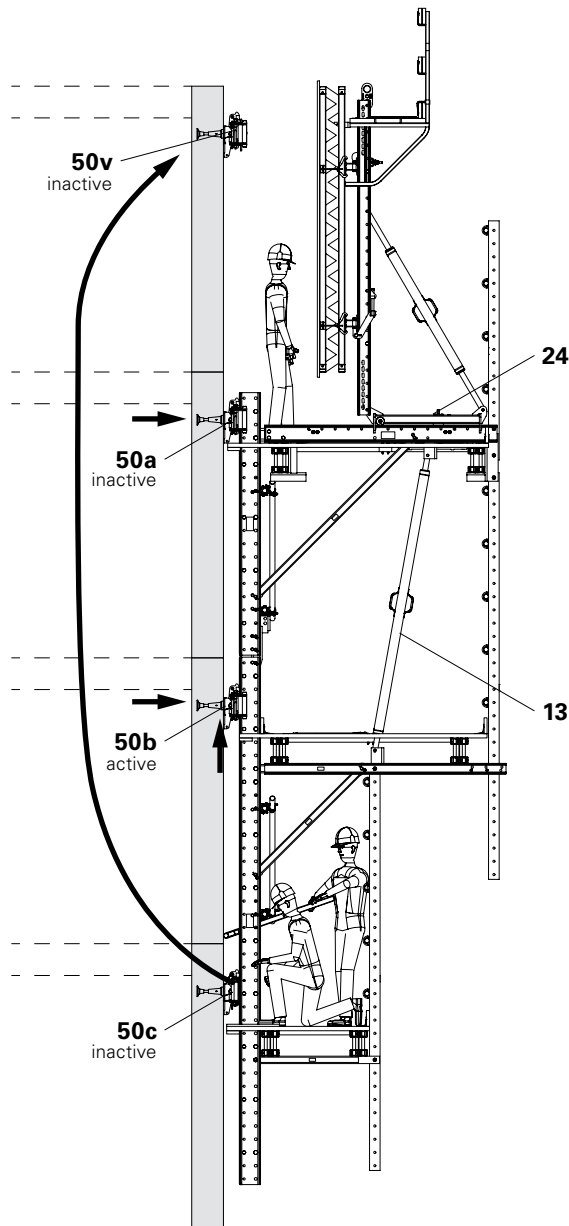

Fig. D6.01
4. Remove the Wall and Climbing Shoe (**50c**) in the area of the finishing platform and mount in advance on the new concreting section. (**50v**) (Fig. D6.01)